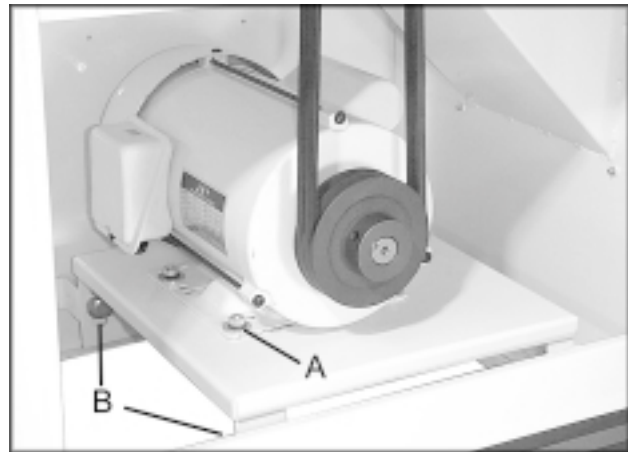

Fig. 15
4. Pull v-belts down and place onto motor pulley (Fig. 15). If necessary, loosen the mounting screws (A, Fig. 15) and slightly lift motor. Re-tighten the screws when belt is placed.
5. Check to make sure that motor pulley and cutterhead pulley are vertically aligned and the v-belt does not contact the sides of the opening in the base. If the pulleys are not aligned, loosen the screws (A, Fig. 15) on the motor base and slide the motor until the belt is aligned. Re-tighten screws.
6. The v-belt is properly tensioned when finger pressure on the belt half way between the two pulleys causes 1/2" deflection. If the belt is too loose, loosen the lower screws (B, Fig. 15) on the mounting plate and push down on the plate. When belt tension is correct, re-tighten screws.